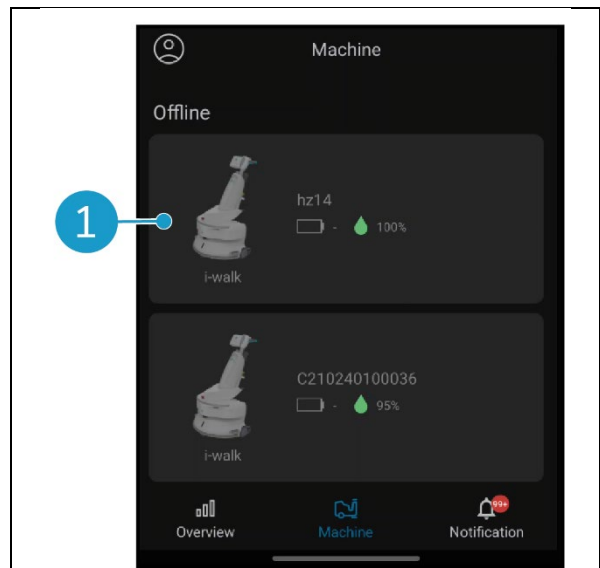

Figure 31
- Tap any machine (Figure 31, pos. 1) to open the menu for that machine.